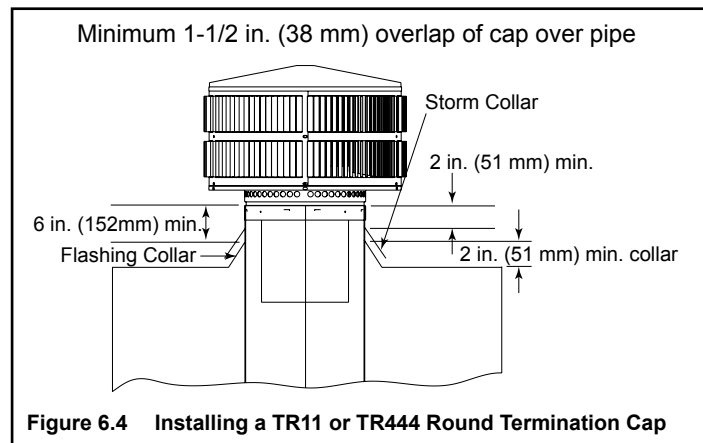

Figure 6.4 Installing a TR11 or TR444 Round Termination Cap
- Install the chimney sections up through the chase enclosure. When using a TR11 or TR444 Round Termination Cap, the uppermost top section of pipe must extend 6 in. (152 mm) above the top of the flashing collar to allow installation of the storm collar and termination cap. See Figure 6.4.